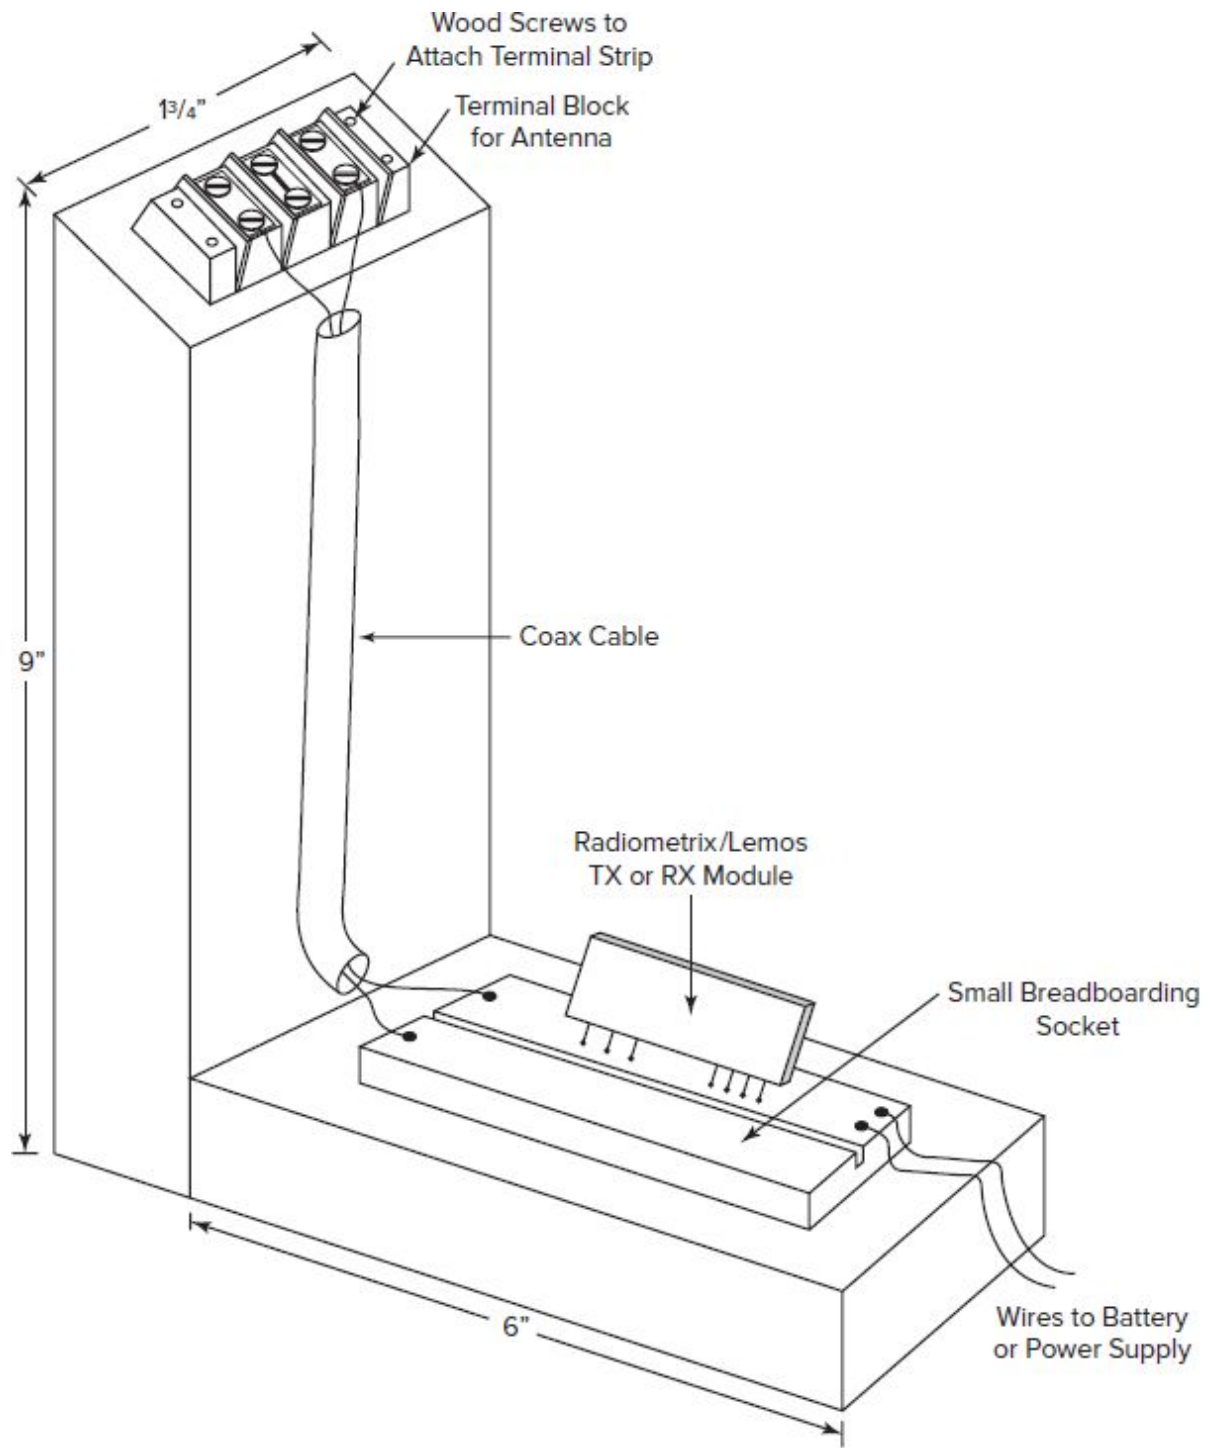

Fig. 16-3 Build two of these units.
The transmitter (TX) and receiver (RX) modules can plug into a small breadboarding socket. This socket can be mounted on a wooden structure as shown in Fig. 16-3. The vertical part of the structure will support the antenna. A three-screw terminal strip is used to attach the antenna elements, and coax cable is used to connect the antenna to the transmitter or receiver. Build one of these structures for the TX and another for the RX. DC for the RX should come from a 9-V battery so that the RX assembly can be rotated. The DC for the TX can come from two AA cells in series or a fixed power supply.